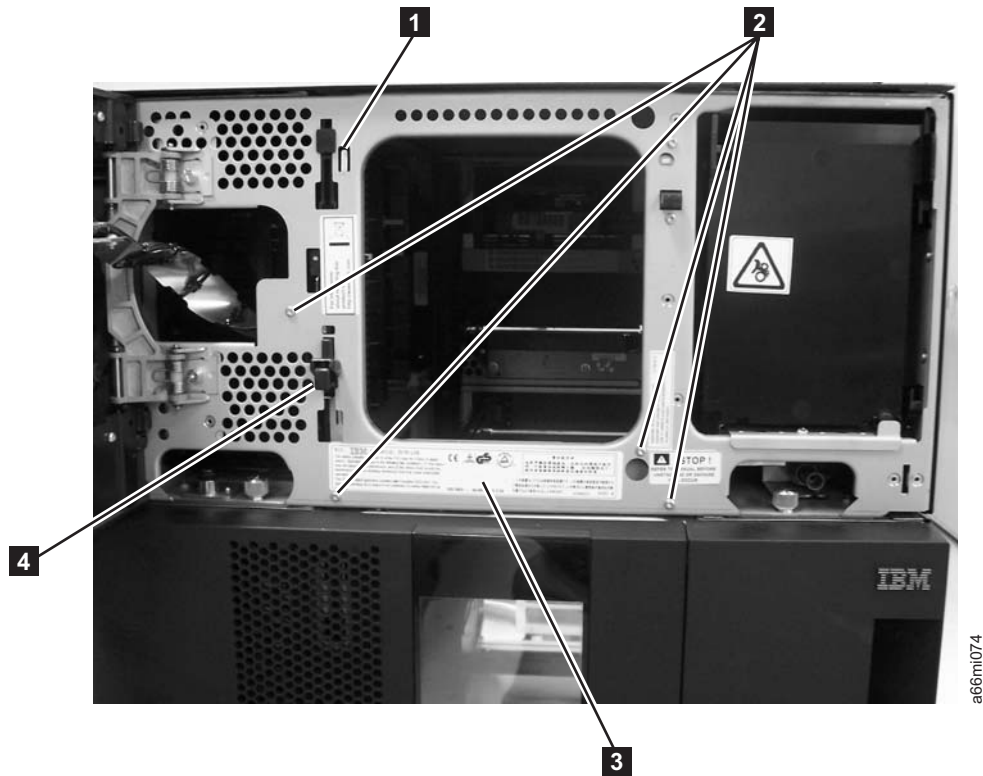

Figure 7-22. Agency Label placement
2. Place the Agency Label (**3** in Figure 7-22) on the enclosure frame underneath the Access Door opening.